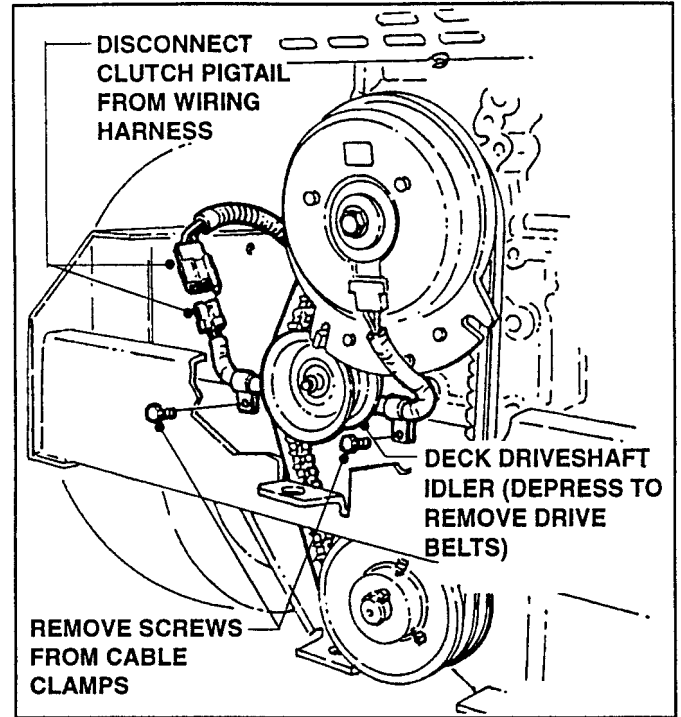

FIGURE 4.4
D. Disconnect electric clutch pigtail from wiring harness and remove fasteners from cable clamps. See Figures 4.4.
E. Depress deck driveshaft idler and remove drive belts. Refer to Figure 4.4.